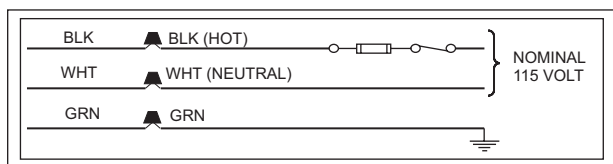

FIGURE 11: Line Wiring Connections
- Remove the screws retaining the wiring box cover. Route the power wiring through the opening in the unit into the junction box with a conduit connector or other proper connection. In the junction box there will be three wires, a Black Wire, a White Wire and a Green Wire. Connect the power supply as shown on the unit-wiring label on the inside of the blower compartment door or the wiring schematic in Figure 11. The black furnace lead must be connected to the L1 (hot) wire from the power supply. The white furnace lead must be connected to neutral. Connect the green furnace lead (equipment ground) to the power supply ground. An alternate wiring method is to use a field provided 2" (5.08 cm) x 4" (10.2 cm) box and cover on the outside of the furnace. Route the furnace leads into the box using a protective bushing where the wires pass through the furnace panel. After making the wiring connections replace the wiring box cover and screws. Refer to Figure 10.
- The furnace's control system requires correct polarity of the power supply and a proper ground connection. Refer to Figure 11.